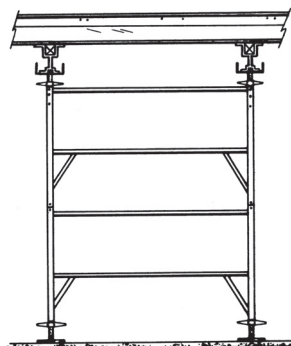

Figure 207
- Shoring towers should be snugged up under the stringers with adjustable base plates and U-heads (Figure 207).